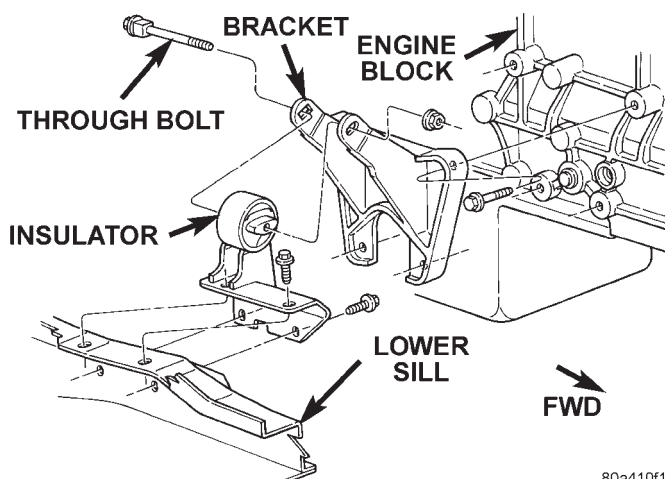

Fig. 7 Front Mount—Right Side
- (1) Disconnect negative cable from battery.
- (2) Raise the vehicle.
- (3) Support the engine.
- (4) Remove through bolt nut. DO NOT remove the through bolt (Fig. 7).
- (5) Remove insulator sill plate bolts.
- (6) Remove engine mount bracket bolts.
- (7) Raise engine up.
- (8) Remove the through bolt.
- (9) Remove insulator.
- (10) Remove engine bracket.